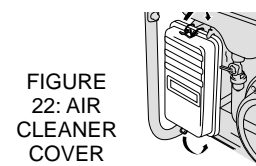

FIGURE 22:
1. Unsnap the air cleaner cover clips, remove the air cleaner cover, and remove the element as shown in figure 22 and 23.